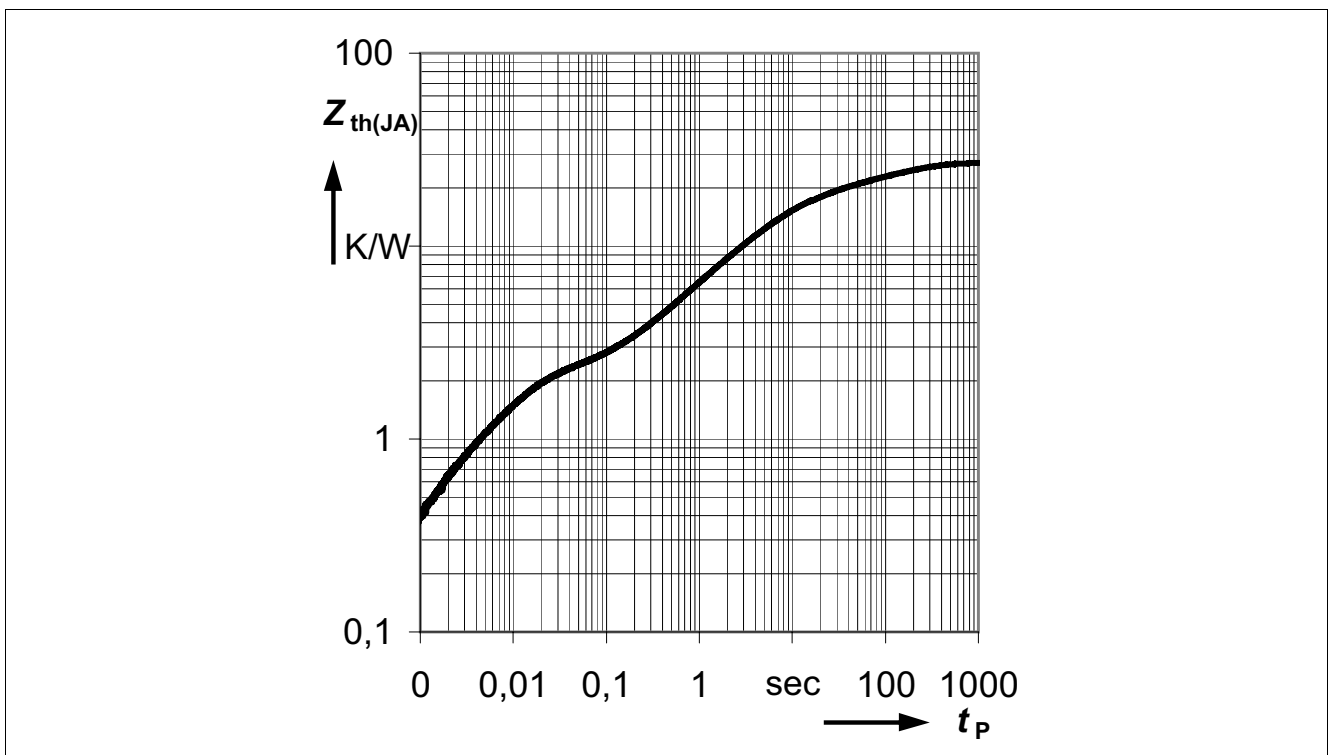

Figure 4 Transient Thermal Impedance $Z_{th(JA)}=f(t_p)$ ⁴⁾
- 4) Specified R_{thja} value and **Figure 4** are according JESD51_7 at natural convection on FR4 2s2p board. The BTS50080-1EGA was measured on a 76.2 x 114.3 x 1.6 mm board with 2 inner copper layers (2 x 70 μ m Cu, 2 x 35 μ m Cu) applying power losses of 1.4W at the channel. According to JESD51-5 a thermal via array under the exposed pad contacted the first inner copper layer. $T_a = 25\text{ °C}$.
Figure 4 shows the typical transient thermal impedance of BTS50080-1EGA.